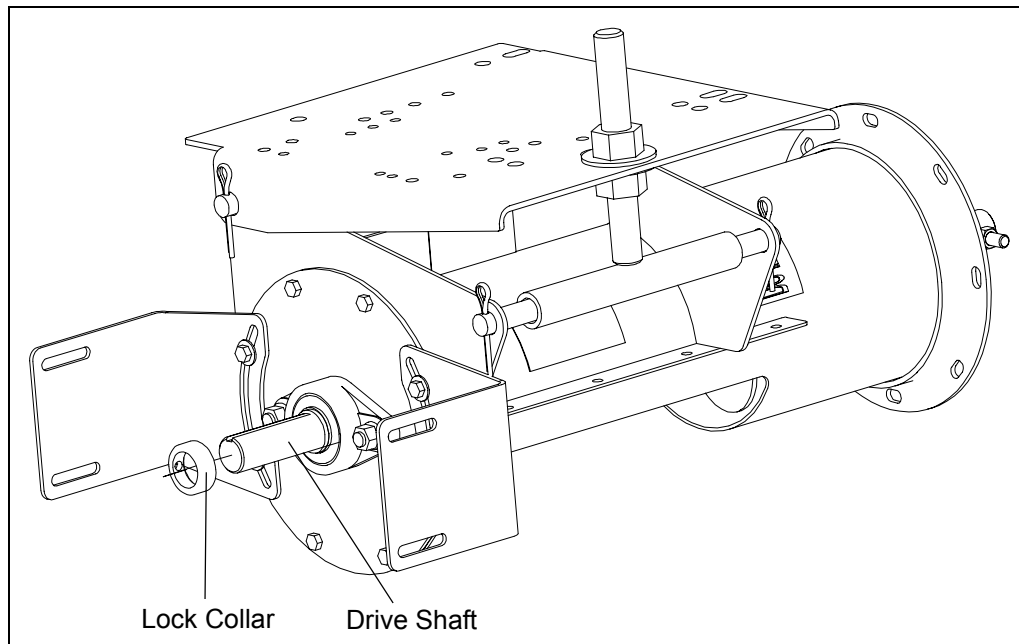

Figure 4R
1. Slide the Lock Collar over the Drive Shaft, positioning it against the bearing. Do not tighten the lock collar at this time as it will be tightened later in the assembly (See Figure 4R).